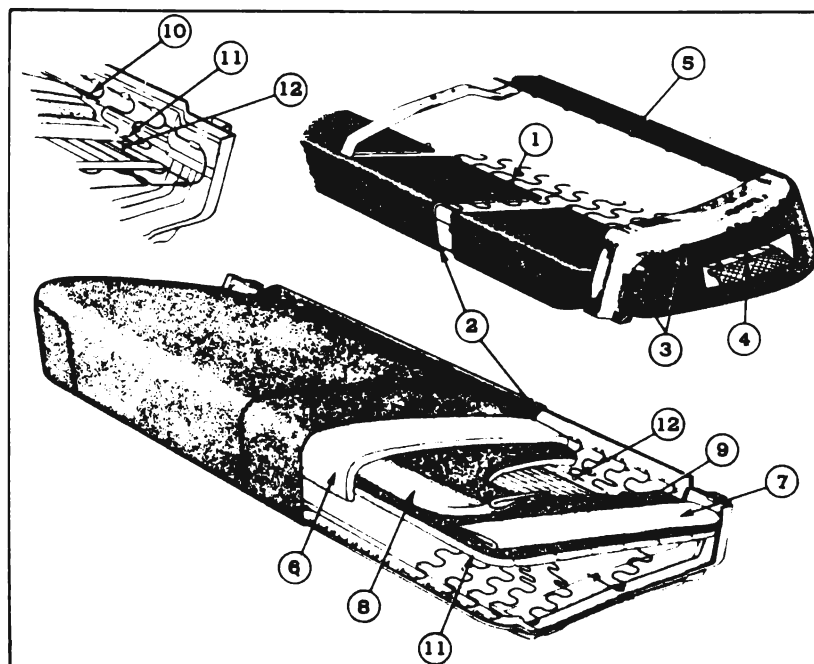

Figure 13-43—Front Seat Cushion Trim Installation
2. Referring to figure 13-43, remove hog rings holding bottom rear facing indicated at (1) to spring and frame. Remove loose wadding (2) from back of seat frame.
3. Remove hog rings securing end facing to slots in seat frame at (3). Also remove hog rings holding end listing to spring at (4).
4. Remove hog rings retaining front facing at (5) to slots at rear of front frame bar.
5. Turn cushion over, turn back trim cover and remove cotton pad (6), cotton batts (7) and (8) and latexed hair pad (9).
6. Remove hog rings securing top rear facing to spring at (10).
7. Remove hog rings holding cotton pad to springs at (11). If necessary, the wire insulator may be removed by disengaging hog rings as indicated at (12).
10. Attach cotton pad to spring at (11) with eight hog rings along each front and rear edge and three along each end. See figure 13-43.
11. Hog ring the top rear facing to spring with thirteen rings as shown at (10).
12. Place latexed hair pad over foundation pad at (9) and tuck snugly at rear.
13. Place a cotton batt over hair pad at each end (7) and along front (8). Batt is opened one-third.
14. Place cotton pad (6) over batts with tobacco cloth backing down against the latexed hair pad. Tuck snugly at rear.
15. Turn cushion upside down and hog ring the front facing at (5) to slots at rear of front frame bar with fourteen hog rings.
16. Secure each end facing to slots in cushion frame with six hog rings at (3). Also apply two hog rings at end of each facing.
17. Hog ring the end listing at (4) to the spring with three rings.
18. Apply wadding to back of cushion frame at (2) and proceed to secure the bottom rear facing to spring with eight hog rings and to frame with two hog rings at each end as shown at (1).